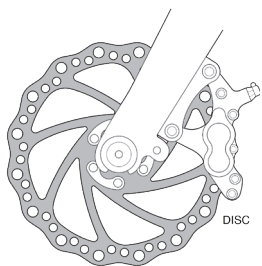
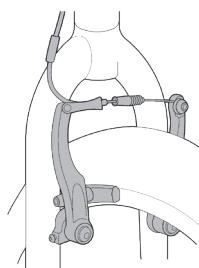

fig. 14
fig. 15
1. If your bike has rim brakes, disengage the brake's quick-release mechanism to increase the clearance between the tire and the brake pads (see Section 4.C, figs. 14 through 18, p. 42).
1. If you have a multi-speed bike with a derailleur gear system: shift the rear derailleur to high gear (the smallest, outermost rear sprocket). If you have an internal gear rear hub, consult your dealer or the hub manufacturer's instructions before attempting to remove the rear wheel. If you have a single-speed bike with rim or disc brake, go to step (4) below.
2. If your bike has rim brakes, disengage the brake's quick-release mechanism to increase the clearance between the wheel rim and the brake pads (see Section 4.C.1, figs. 14 through 18, p.42).
3. Some bicycle brakes, such as disc brakes (fig. 14) and linear-pull brakes (fig. 15), are extremely powerful. Take extra care in becoming familiar with these brakes and exercise particular care when using them.
Most rim brakes have some form of quick-release mechanism to allow the brake pads to clear the tire when a wheel is removed or reinstalled. When the brake quick release is in the open position, the brakes are inoperative. Ask your dealer to make sure that you understand the way the brake quick release works on your bike (see figs. 14, 15, 16, 17, & 18) and check each time to make sure both brakes work correctly before you get on the bike.